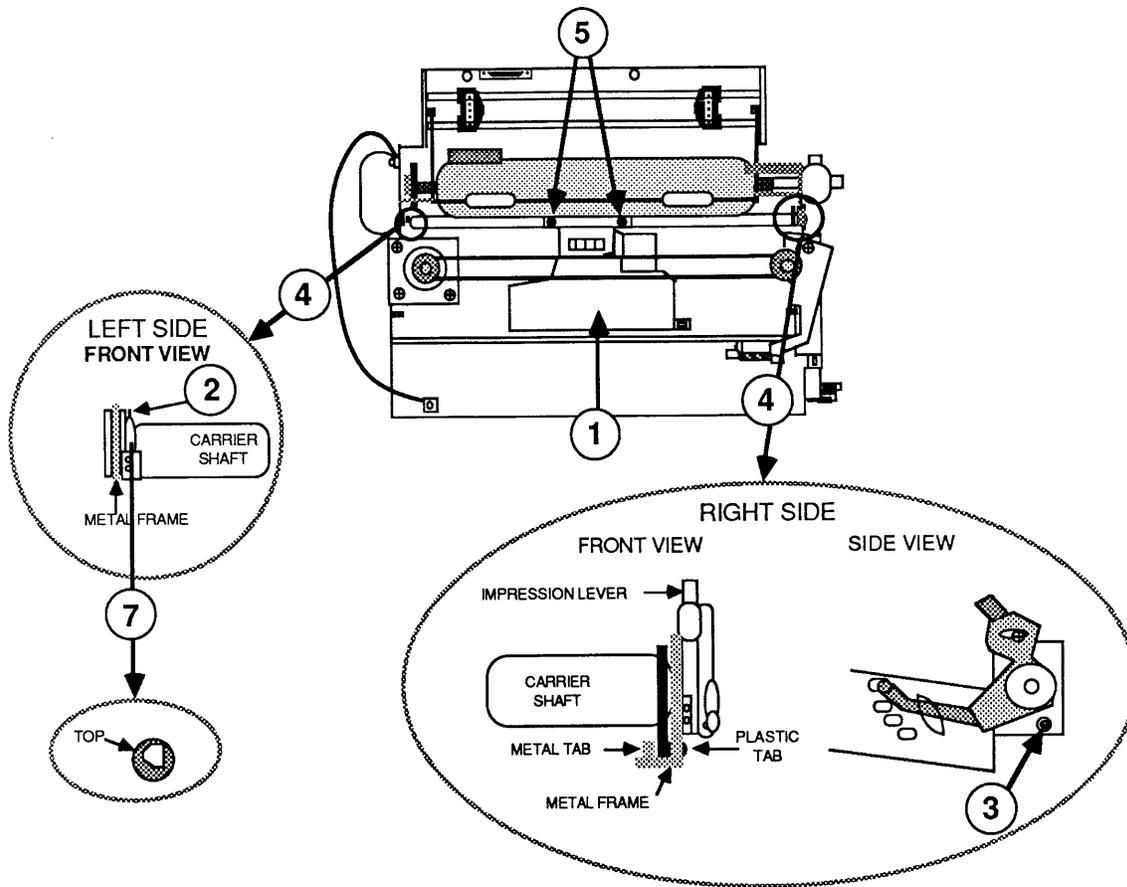

FIGURE 33
6. Place the carrier cam on the left side of the carrier shaft. Be sure to position it as shown in Figure 33, #7, with the smaller section as the top of the cam. The wrong position will produce uneven printing.
7. Position the carrier assembly so the tabs underneath the assembly (Figure 33, #1) are in place.